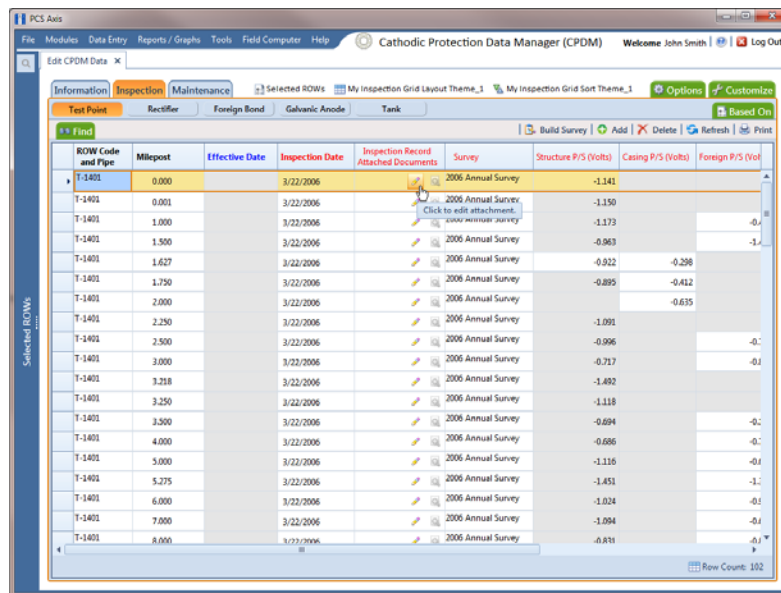

Figure 7-102. Attached Document Field
- 5 Click the edit icon  in the **Attached Documents** field for the grid record you plan to attach a document (Figure 7-102).